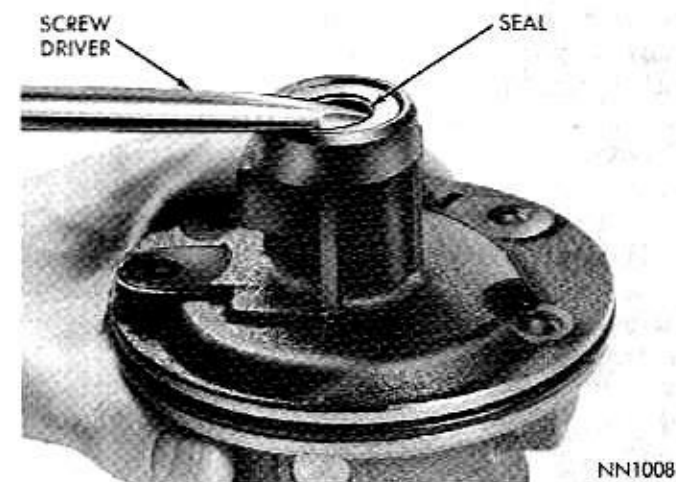

Fig. 9—Oil Seal Removal
(10) Remove and discard end plate and pressure plate "O" rings.
(11) Place pump body on flat surface and pry drive shaft oil seal out with a screw driver (Fig. 9).
(12) Inspect seal bore in housing for burrs, nicks